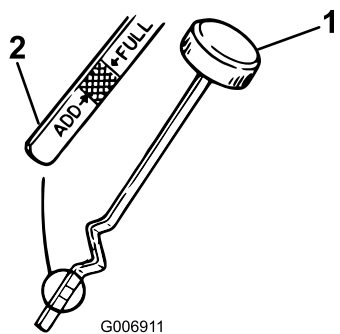

Figure 18
- Unscrew the oil dipstick and wipe the metal end clean (Figure 18).